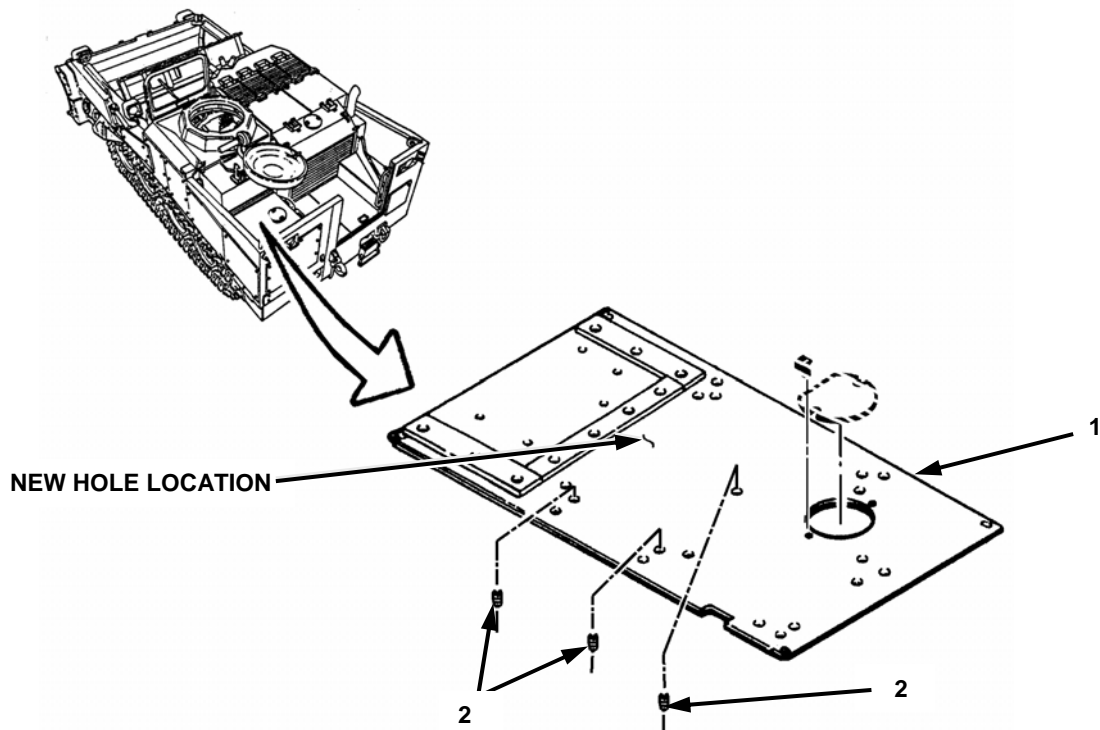

Figure 2-1. Fuel Tank Armor Plate.
Step 1 below applies to Figure 2-1.
1. Remove and discard three setscrews (2) from fuel tank armor plate (1) behind driver's compartment.